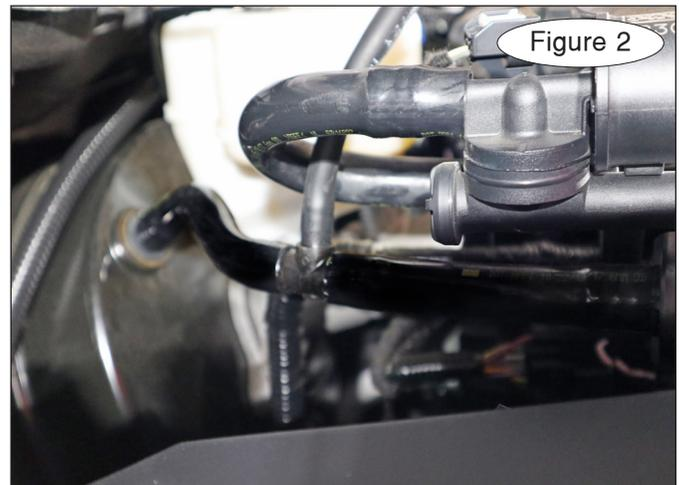

Figure 2
3. Insert the 1/4" flexible tube from the InvisiBrake installation kit and the 1/4" air line to the controller to complete the installation (Fig.2).